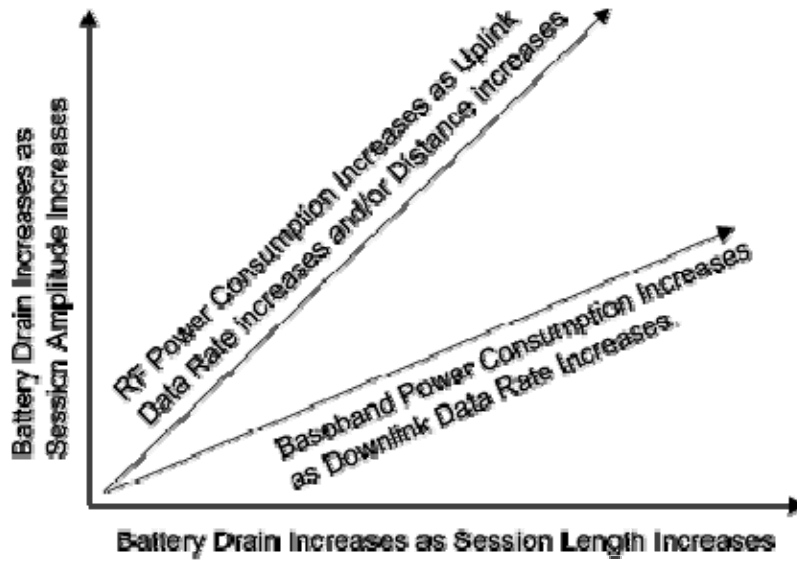

Figure 2: Battery Drain Metrics
Figure 2 illustrates two factors that we need to consider:-
- (ii) Power drain limits session duration. This degrades session value both in terms of user to user exchanges and multi-user to multi-user exchanges. It will be very depressing to have users leaving a multi-user to multi-user exchange because their battery has gone flat - it will tend to destroy the integrity of the session, and hence the value of a multi-user multi-media exchange. The relationship of battery drain, session amplitude and session duration is shown in Figure 2.